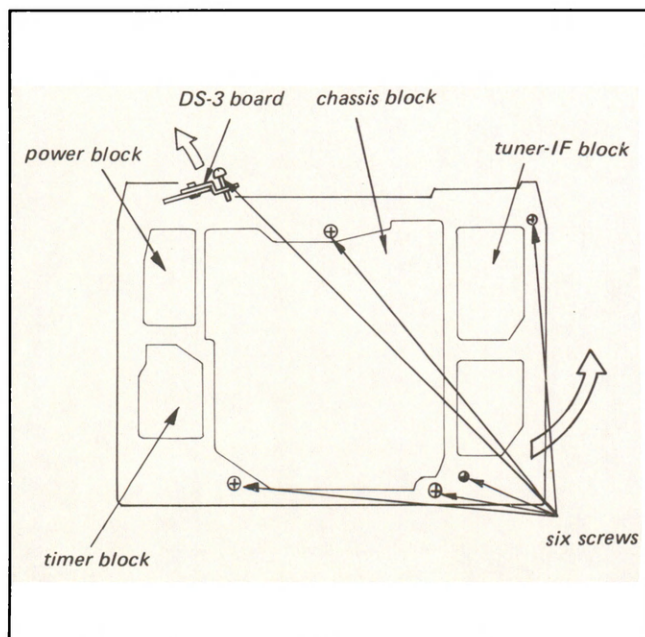

Fig. 3-65.
1. Remove the six screws shown in Fig. 3-65.
2. Move the DS-3 board and the tuner block in the direction shown by the arrow. (See Fig. 3-65.)